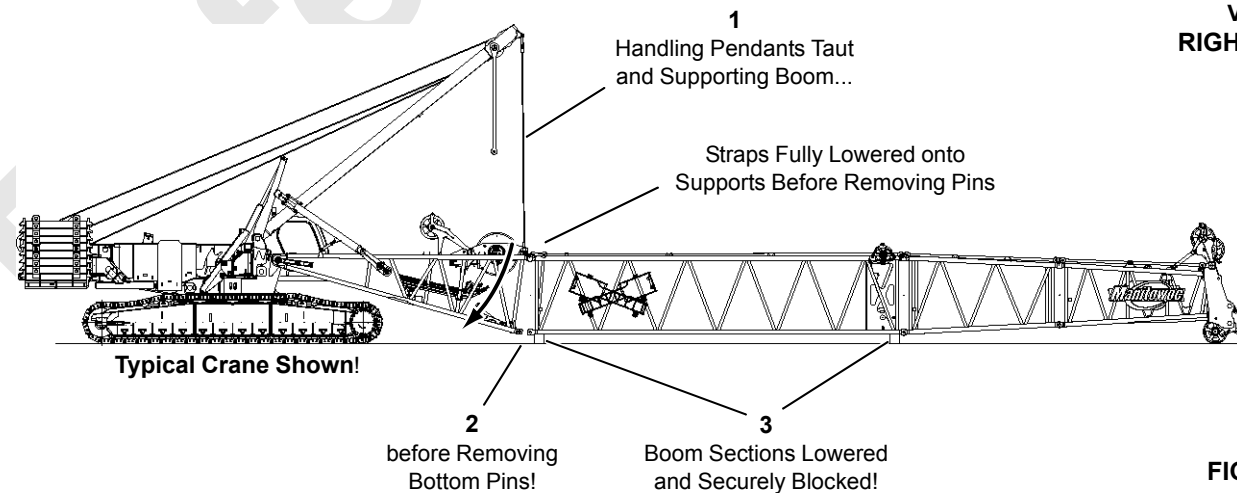

FIGURE 2-4
- Do not remove bottom connecting pins from any boom section when boom is supported by straps as shown in Figure 2-4, View A.
- Do not remove strap connecting pins until straps are fully lowered into supports as shown in Figure 2-4, View C.
- Do not remove bottom connecting pins from any boom section when the boom point is resting on ground and handling pendants are slack as shown in Figure 2-4, View B.
- Never work or stand inside boom unless it is lowered and securely blocked as shown in Figure 2-4, View C.